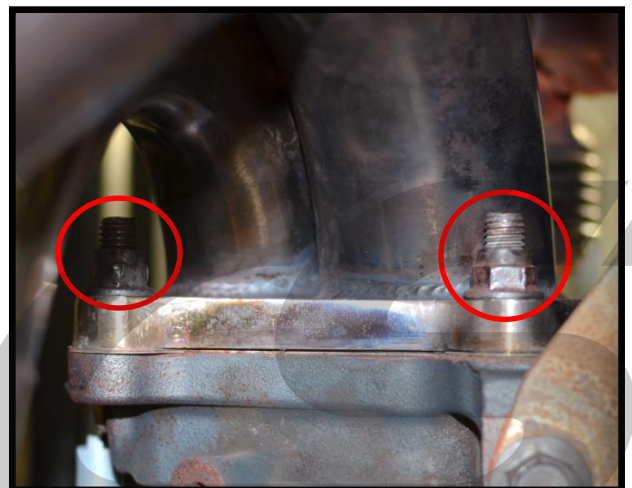

Figure 6e
- f) Remove the lower remaining two 14mm nuts from the downpipe, **circled in red** in **Figure 6e**.